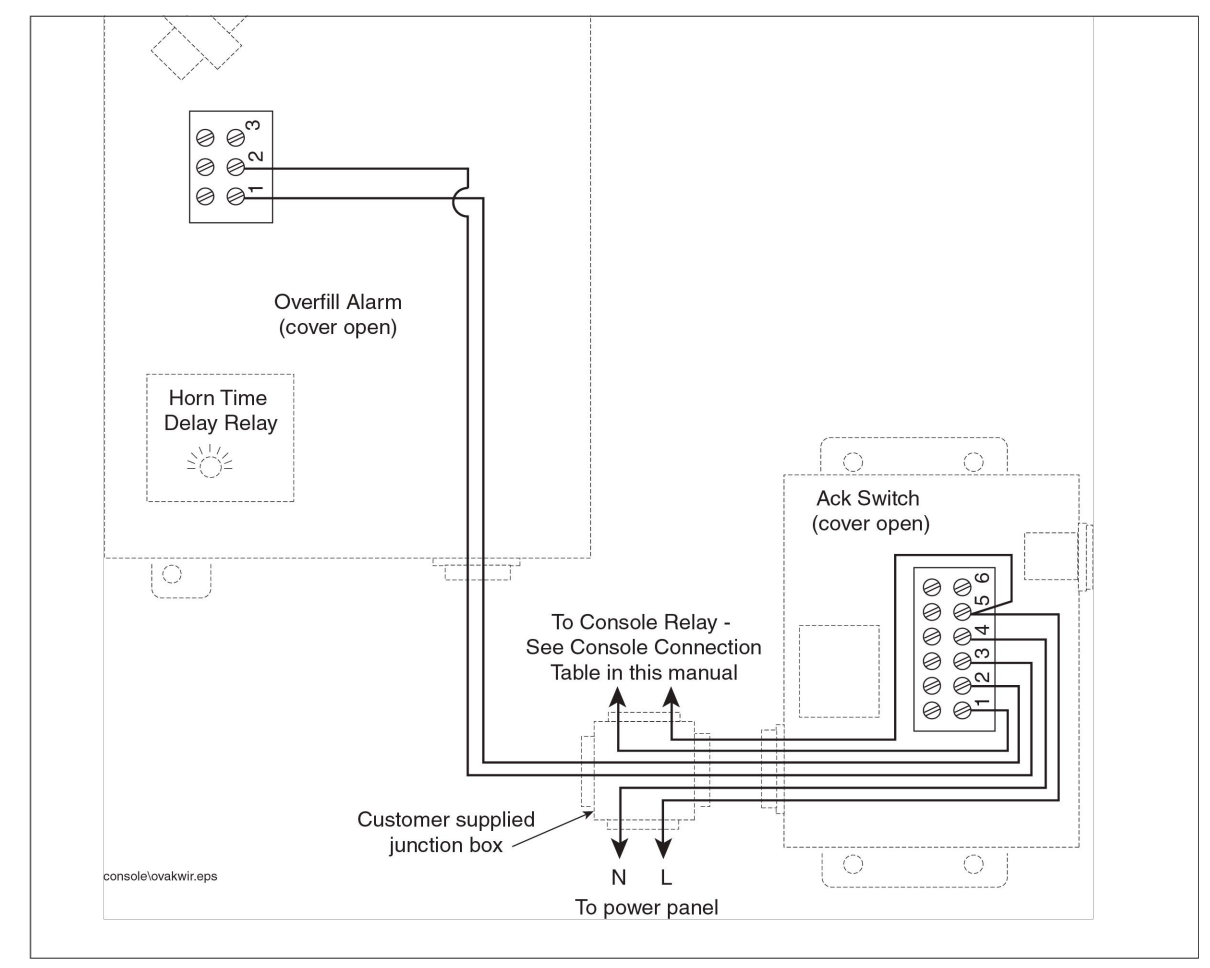

Figure 3. Overflow Alarm/Acknowledgement Switch wiring connections
5. Turn power Off and connect wiring according to the wiring diagram in Figure 3 and Table 1.
Overflow Alarm with Acknowledge Switch (see Figure 3)